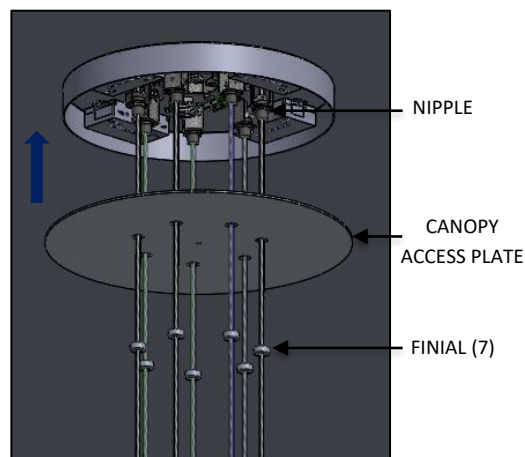

FIG. 13 - FINIAL INSTALLATION
9. Raise CANOPY ACCESS PLATE and secure to ceiling by threading the 7 FINIAL to NIPPLE (available in HANGING BRACKET) as shown below in FIG. 13.